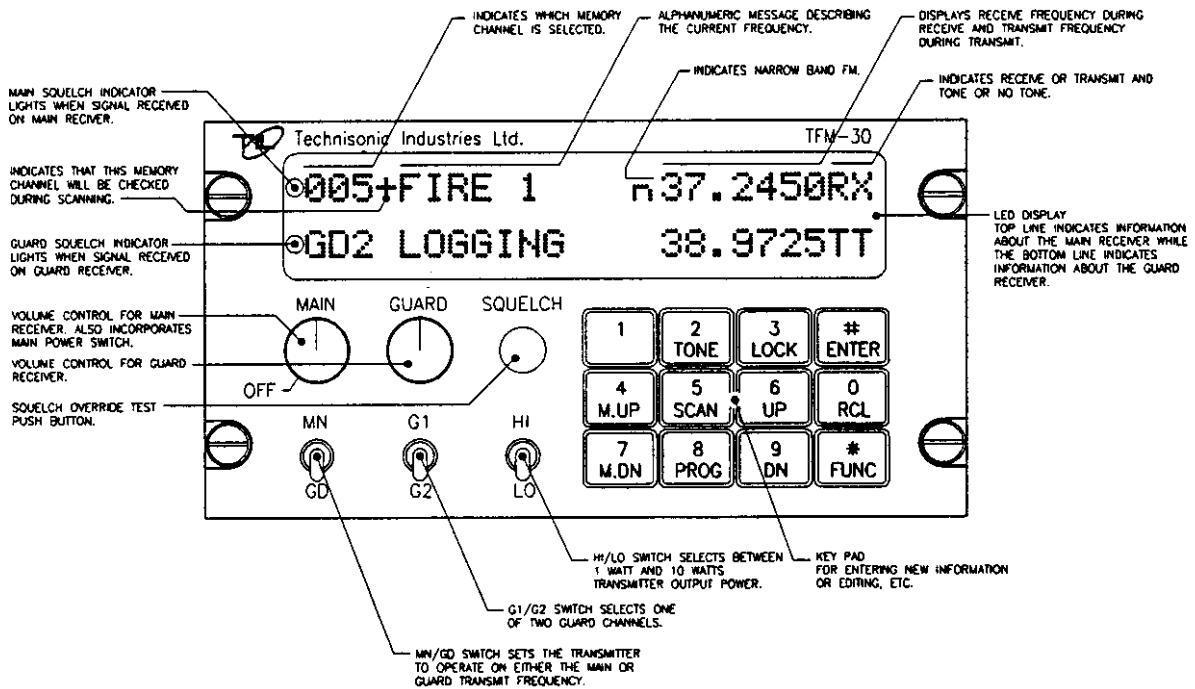

FIGURE 2-1 Operator's Switches and Controls - TFM-30
2.2 OPERATING INSTRUCTIONS (See Figure 2-1)